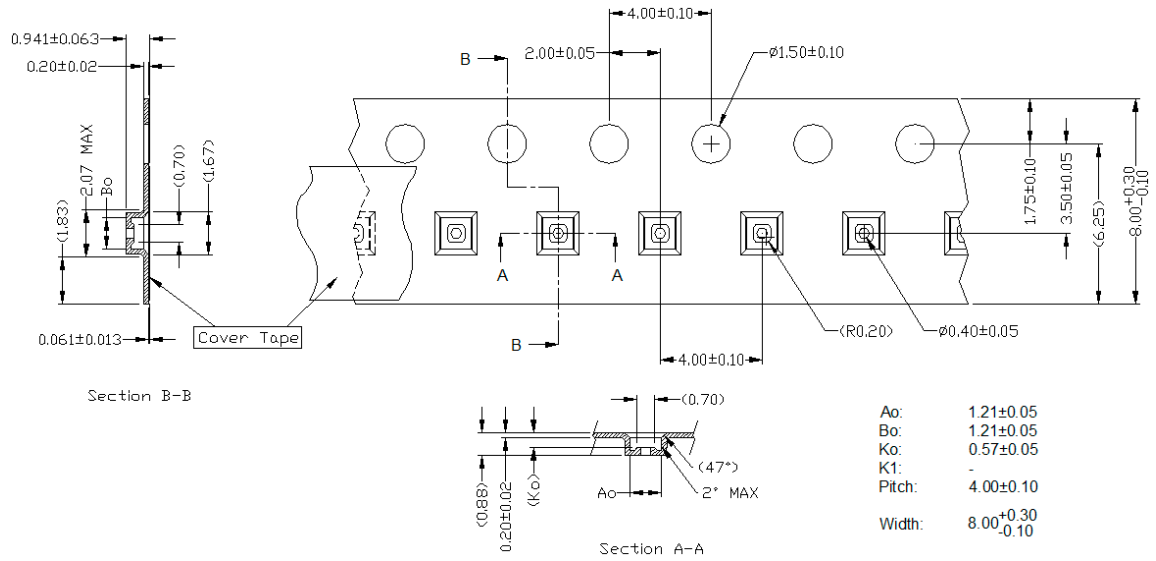

Figure 14: Tape dimensions for LUXEON FlipChip White 05.
- Notes for Figures 14 and 15: